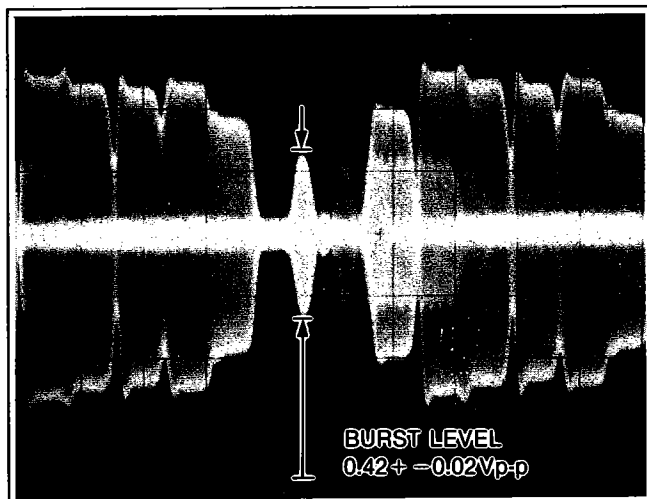

Figure E24
4. Adjust VR801 until the playback burst level is $0.42 \pm 0.02V_{p-p}$ as shown in Figure E24.